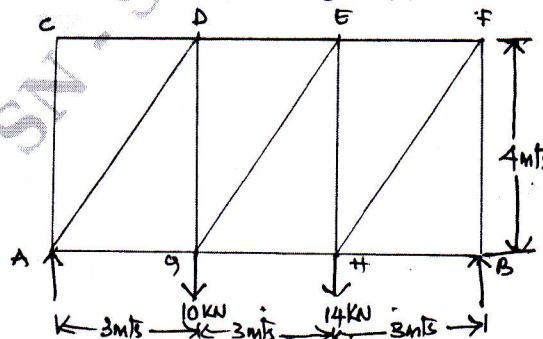

Fig Q9(b) (06 Marks)
b. Determine the support reactors for the frame in Fig Q9(b)